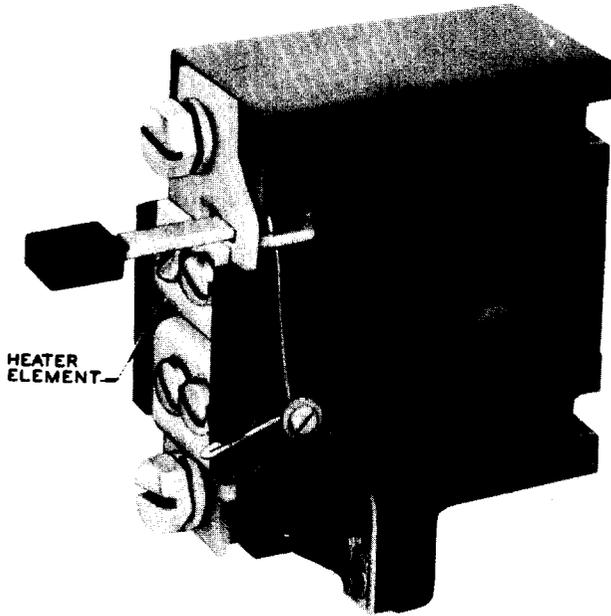

Fig. 5 - CR-2824-42-type Thermal Overload Relay
3.11 To replace the heater element on the CR-2824-42A, 42C, 42F, and 42G thermal overload relays, shown in Fig. 5
3.12 The CR-2824-42A, 42C, 42F, and 42G thermal overload relays, shown in Fig. 5, may be replaced as a unit which can be done readily, being careful to reconnect the leads properly and not to injure any of the working parts.
3. To add new Fig. 5 for the CR-2824-42-type thermal overload relays.